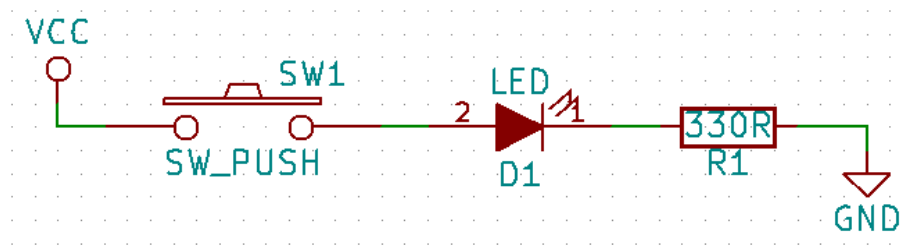
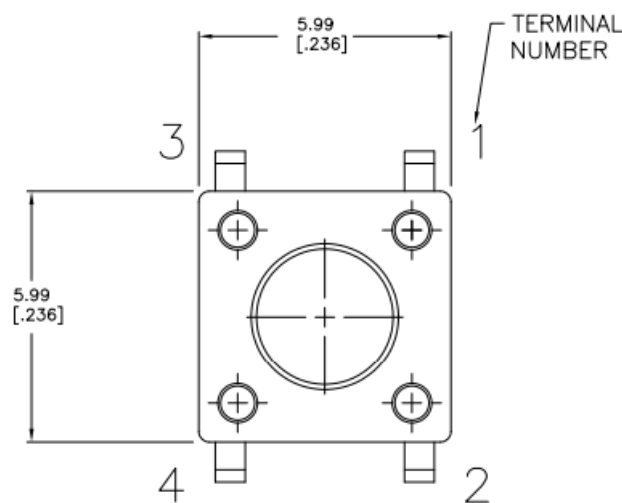

Figure 2: LED circuit
Figure 3: Push button pinout
3. Construct the circuit in Figure 2. The push button's pinout is shown in Figures 3 and 4. Use your knowledge of the breadboard's internal structure (see the knowledge reference 4.1) to make an informed choice regarding where to insert each component. Use the supplied male-male jumper wires as necessary. 1